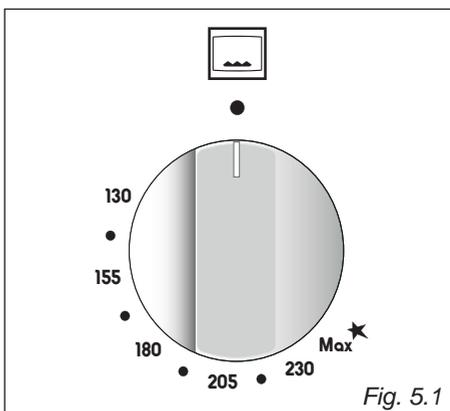

Fig. 5.1
The numbers **130 to Max**★ printed on the control panel (fig. 5.1) indicate the increasing oven temperature value (see table 5.2).
2. Lightly press and turn the thermostat knob anti-clockwise (fig. 5.4) to max position **Max** ★ (fig. 5.1). Press the knob firmly until the burner lights. **Never continue this operation for more than 15 seconds. If the burner has still not ignited, wait for about 1 minute prior to repeating the ignition.**